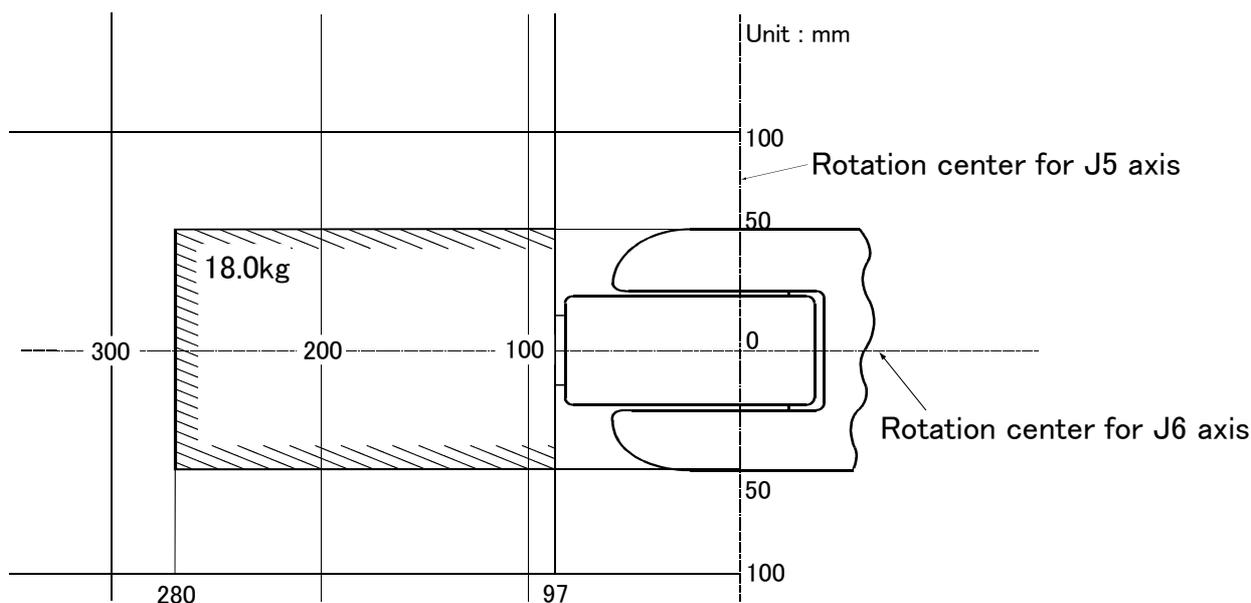

Fig.2-1 : Position of center of gravity for loads (for loads with comparatively small volume):RV-18SD-SSeries
- (1) The tooling should have the value less or equal than the smaller of the tolerable inertia and the tolerable moment found in Page 7, "Table 2-1 : Standard specifications of robot"
- (2) Fig. 2-1 shows the distribution dimensions for the center of gravity in the case where the volume of the load is relatively small. Use this figure as a reference when designing the tooling.
- (3) When the load is not mass, but force, you should design the tooling so that it does not exceed the value for allowable moment described in Page 7, "Table 2-1 : Standard specifications of robot"